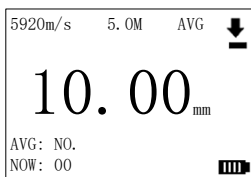

Fig. 4-6: Average Measurement GUI
- STEP 3:** Press  to return to the average measuring GUI (As shown in Figure 4-6);